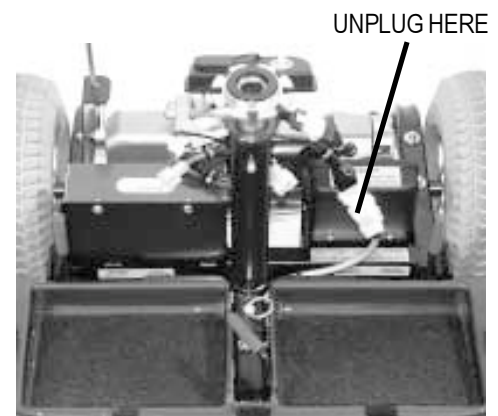

FIGURE 15. FRONT-TO-REAR CABLE
7. Unplug the large, white, 9-pin front-to-rear connector that attaches the front control console assembly harness to the electronic controller module harness. See figure 15.
8. Insert the large, white, 9 pin connector (located on the harness coming out of the Victory's front section) to the connector's mating socket (found near the front of the Victory's rear section). See figure 15.